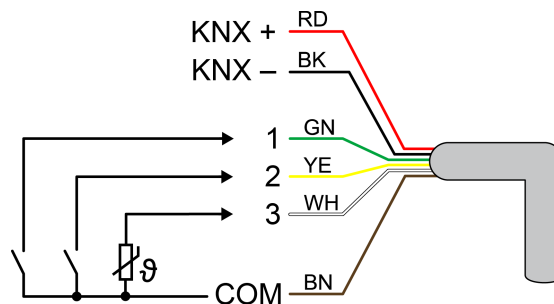

Figure 2: Connection assignment of control cable (example)
- If required, connect potential-free contacts or condensation/leakage sensors to inputs 1...3, or NTC temperature sensors to input 3 (see figure 2).